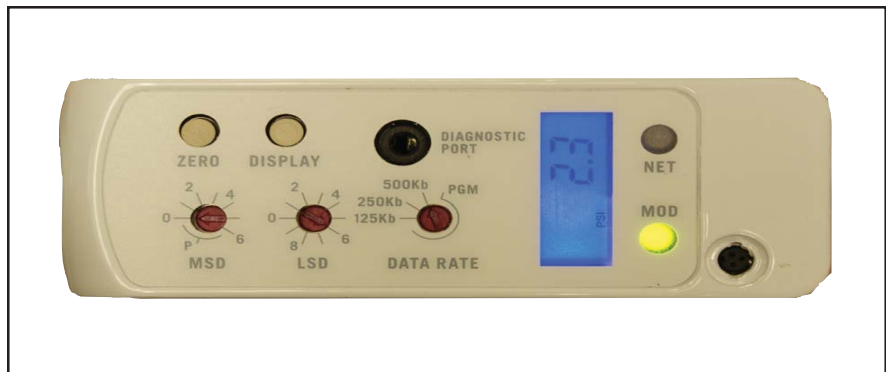

Figure 5-1 Display with PSI Reading
2. Looking at the top of the GF1XX, press the "Display" button, starting at the MACID, four times to "PSI" or five times to "kPa" or until the LCD displays the labels "PSI" or "kPa". The GF1XX will display pressure in units of PSIA or kPa. Press and hold down the Zero button a minimum of 5 seconds or until the display reads 0.000, with the last two digits flickering at different values. The pressure transducer zeroing procedure can be done while the display is either in PSIA or kPa output. Refer to Figure 5-1.